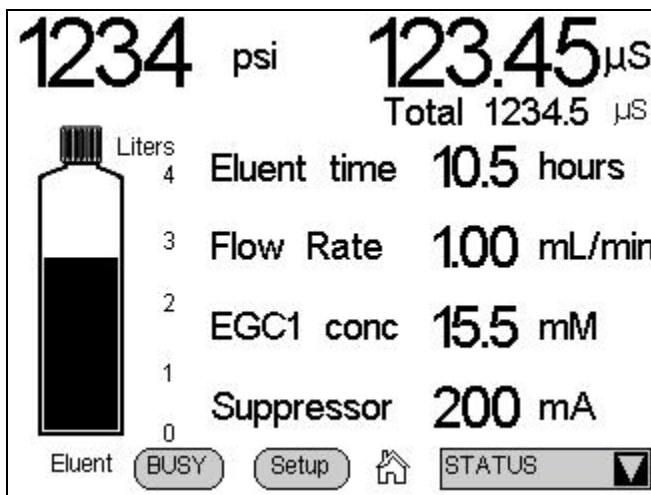

Figure B-9. Status Page
- The fields to the right of the bottle display the status of four other operating parameters. You can choose from eight possible parameters to display here. Figure B-9 shows the default parameters: **Eluent time**, **Flow rate**, **EGC conc.**, and **Suppressor**. To select different parameters, touch the **Setup** button. See Section B.6.1 for details about how to change the status parameters, and Section B.6.2 for a description of each parameter.